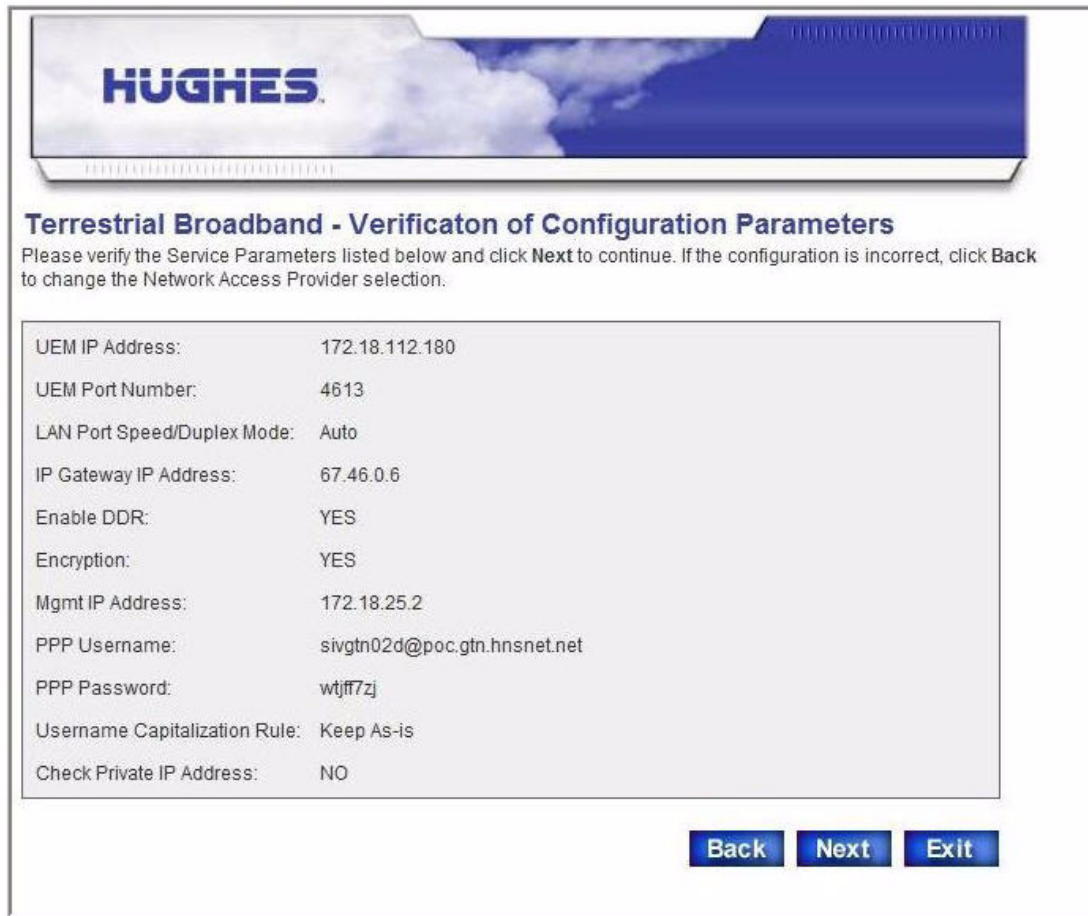

Figure 22: Sample Configurations Parameters verification screen
2. The Verification of Configuration Parameters screen displays as shown in Figure 22.